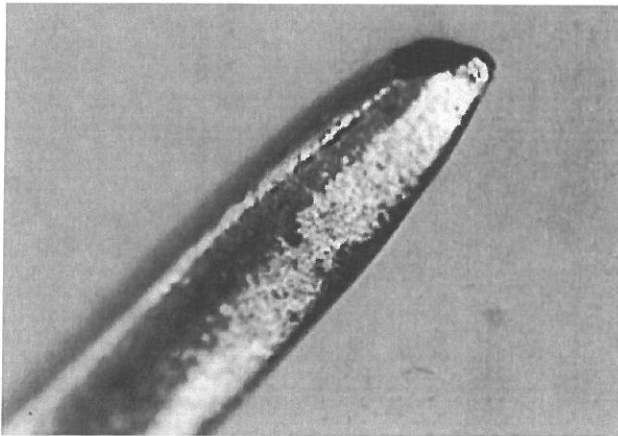

Figure 9-50
- Chipped pin on mating surface of separable connector, Figure 9-50.